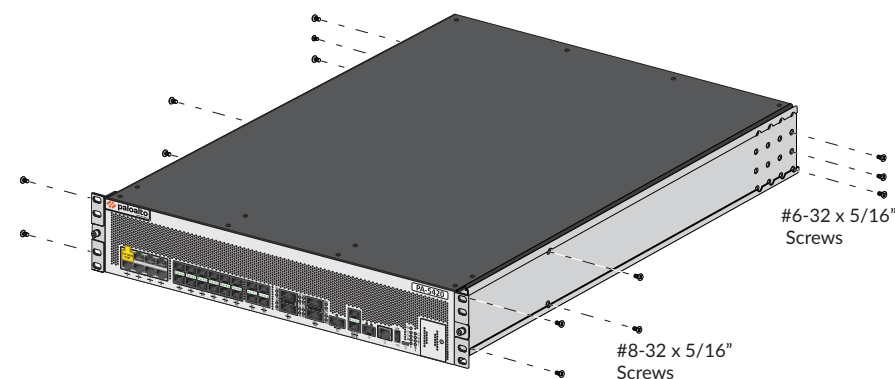

Figure 1
- 1 Attach one fixed rack mount bracket to each side (left and right when facing the front panel) of the firewall. Use four #8-32 x 5/16" screws for the front four screw holes of each bracket and three #6-32 x 5/16" screws for the three back screw holes of each bracket (Figure 1) and torque each screw to 15 in-lbs.